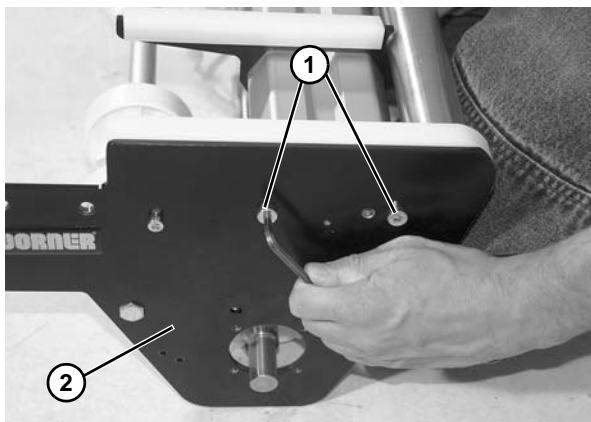

Figure 58
10. Remove two socket head screws (**Figure 58, item 1**) from end plate (**Figure 58, item 2**).